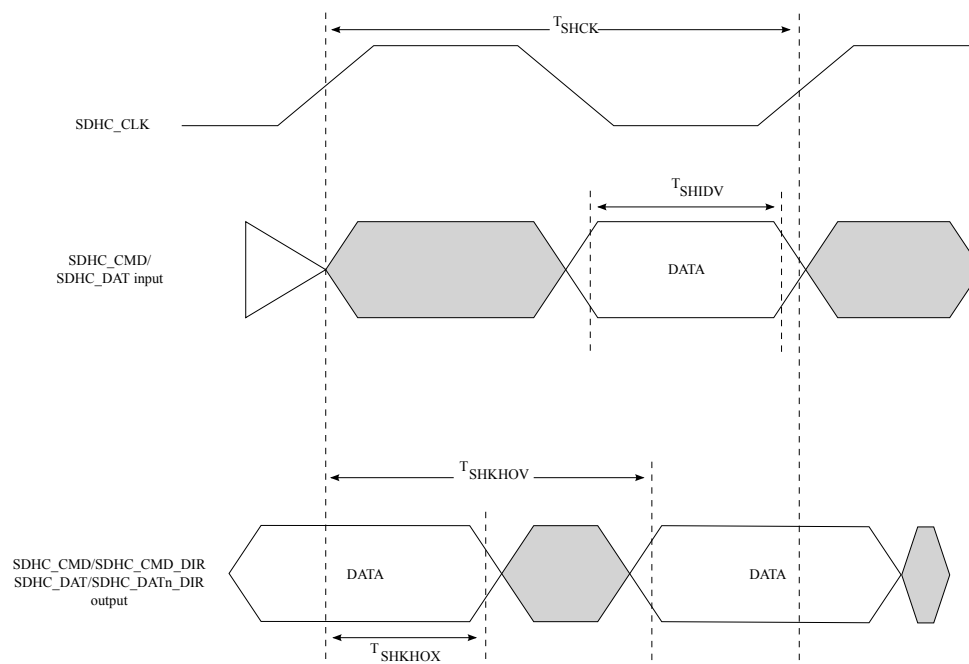

Figure 16. eSDHC SDR104/HS200 mode timing diagram
2. The symbols used for timing specifications herein follow the pattern of $t_{(\text{first two letters of functional block})(\text{signal})(\text{state})(\text{reference})(\text{state})}$ for inputs and $t_{(\text{first two letters of functional block})(\text{reference})(\text{state})(\text{signal})(\text{state})}$ for outputs. For example, t_{SHKHOX} symbolizes eSDHC highspeed mode device timing (SH) clock reference (K) going to the high (H) state, with respect to the output (O) reaching the invalid state (X) or output hold time. Note that in general, the clock reference symbol is based on five letters representing the clock of a particular functional. For rise and fall times, the latter convention is used with the appropriate letter: R (rise) or F (fall).
3. See Figure 16.
1. $C_L = C_{BUS} + C_{HOST} + C_{CARD} \leq 15pF$. 2. The symbols used for timing specifications herein follow the pattern of t (first two letters of functional block)(signal)(state) (reference)(state) for inputs and t (first two letters of functional block)(reference)(state)(signal)(state) for outputs. For example, t_{SHKH0X} symbolizes eSDHC highspeed mode device timing (SH) clock reference (K) going to the high (H) state, with respect to the output (O) reaching the invalid state (X) or output hold time. Note that in general, the clock reference symbol is based on five letters representing the clock of a particular functional. For rise and fall times, the latter convention is used with the appropriate letter: R (rise) or F (fall). 3. See Figure 17. 4. See Figure 18. 5. For HS400 without enhanced strobe (DQS) command, see Figure 16.